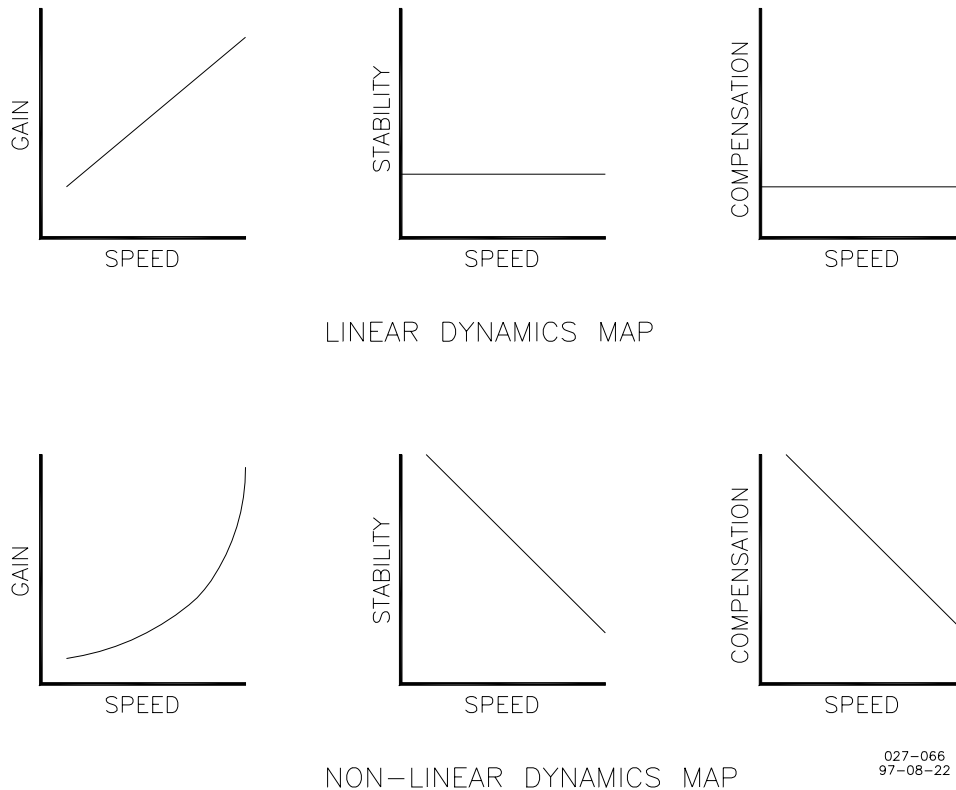

Figure 4-6. Dynamics Map Curves
7. Dynamics Map selects the mapping algorithm used to map dynamics as a function of engine speed. Figure 4-6 illustrates how dynamics vary as a function of engine speed for each map. The 701A control provides two dynamics maps, Linear and Non-Linear.